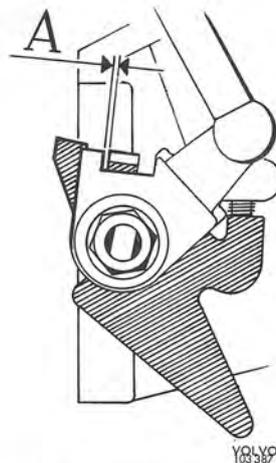

Fig. 2-75. Setting the control
5. Adjust the link rods. With the control against its stop on the manifold bracket, the link rods should be adjusted so that there is a clearance of about 0.1 mm (0.004") between the lever and the primary throttle spindle flange. See Fig. 2-75.
5. Adjust the link rods. With the control against its stop on the manifold bracket, the link rods should be adjusted so that there is a clearance of about 0.1 mm (0.004") between the lever and the flange of the primary throttle spindle. See Fig. 2-75.